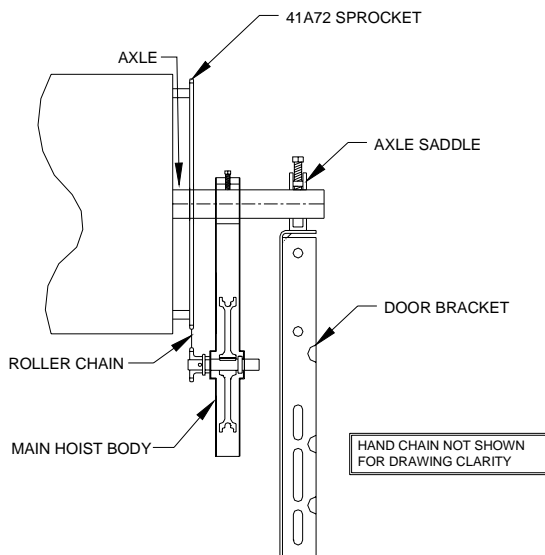

Figure 11.
12.3 **Reduced-drive operator** — 8:1 chain hoist assembly should be installed as described in Section 4 and shown in Figure 11.